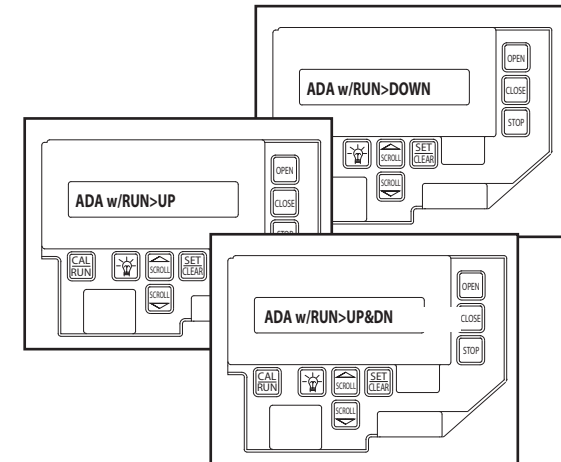

Fig. 5B Select Mode
4. Press the SET/CLEAR key to toggle between the following modes (**Fig. 5B**):